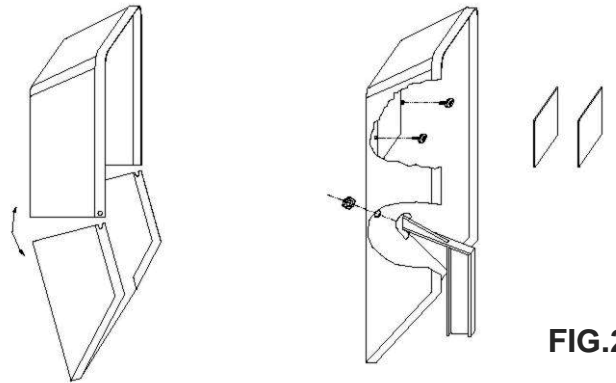

FIG.2
2. In order to assemble the handshield (Fig.2); insert the plastic protection shield in the special opening fixing it with the two screws. Place the handle fixing it in the slit of the protection mask, push it and rotate it by 90° until it enters into the hole inside the protection mask.